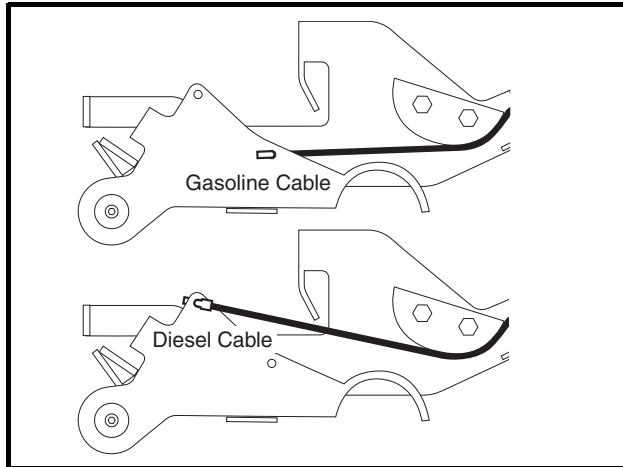

Figure 13b-22 Z-Shaped Cable End in Hole at Pedal
2. Connect the accelerator cable to the pedal (**Figure 13b-22, Page 13b-23**).
3. Secure the strain relief on the accelerator cable sheath to the slot at the back of the pedal bracket (**Figure 13b-21, Page 13b-22**).